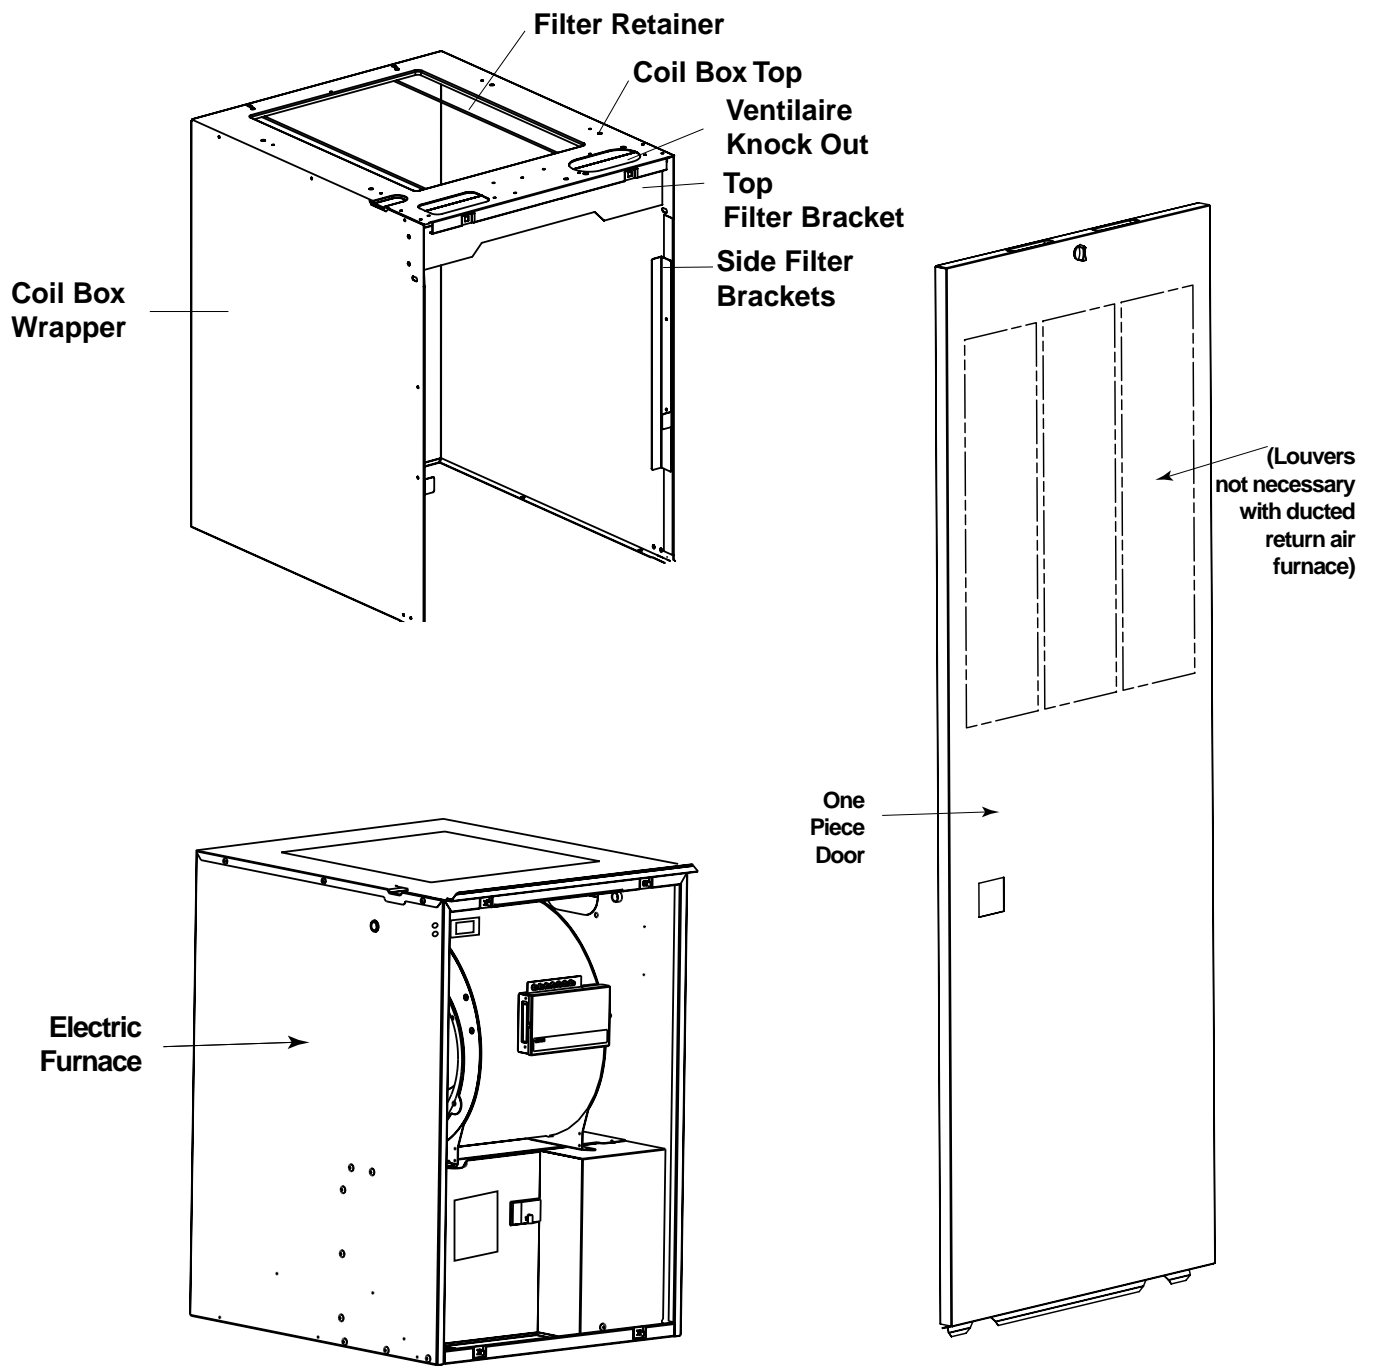

Figure 1
- 4) Position coil cabinet on a flat surface as shown in Figure 1.